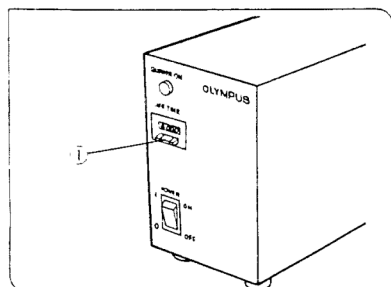

Fig. 9
1. Press the center of the reset button ① (Fig. 9) on the power supply unit's front panel to reset the burner life indicator to 000.0.